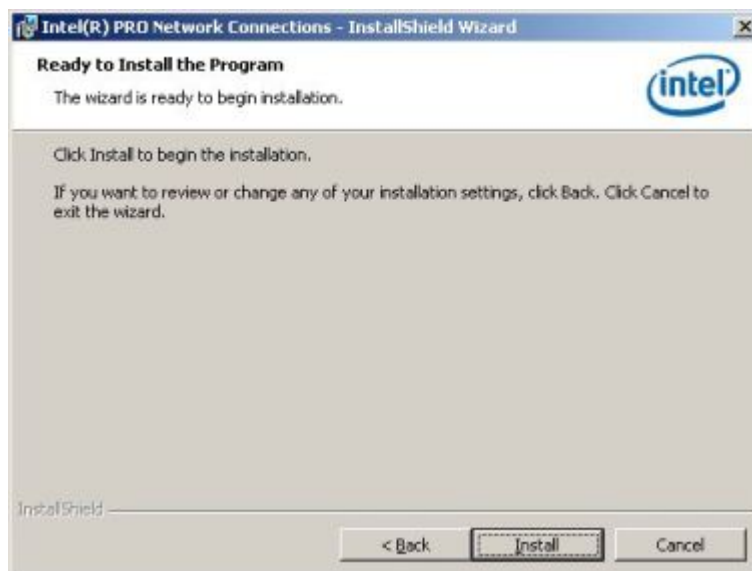

Figure 7-27: Intel® 82566 Driver Installation Ready Window
Step 19: The **Ready to Install the Program** window in **Figure 7-27** appears.
Step 20: Click **INSTALL** in **Figure 7-27**.